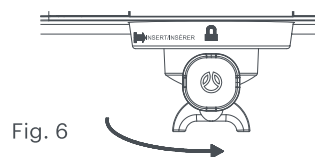

Fig. 6
2. Secure the Portafilter, according to Figure 6, rotating counter-clockwise until it is locked.